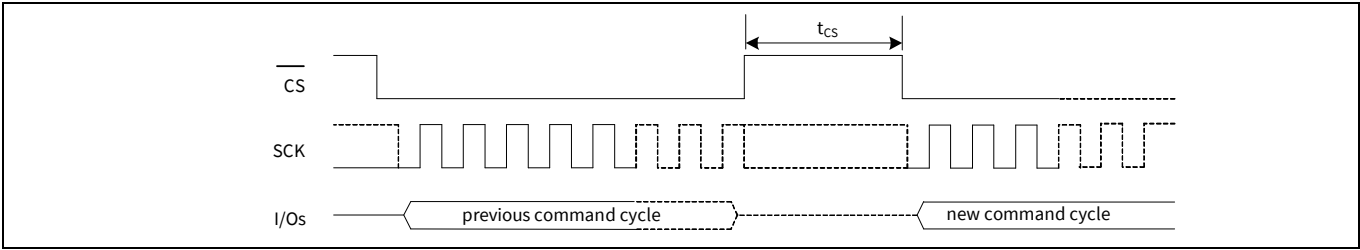

Figure 116 Chip deselect ($\overline{CS}$ HIGH) - t_{CS} timing
21. t_{CS} is the minimum chip deselect ($\overline{CS}$ HIGH) time before the new command cycle starts in a specific SPI mode (SPI, DPI or QPI). This parameter ensures that previous operation is successfully completed before the host starts a new command cycle, see **Figure 116**.
26. t_{CS} is the minimum chip deselect ($\overline{CS}$ HIGH) time before the new command cycle starts in a specific SPI mode (SPI or QPI). This parameter ensures that previous operation is successfully completed before the host starts a new command cycle, see **Figure 116**.
26. t_{CS} is the minimum chip deselect ($\overline{\text{CS}}$ HIGH) time before the new command cycle starts in a specific SPI mode (SPI or QPI). This parameter ensures that previous operation is successfully completed before the host starts a new command cycle, see **Figure 116**.